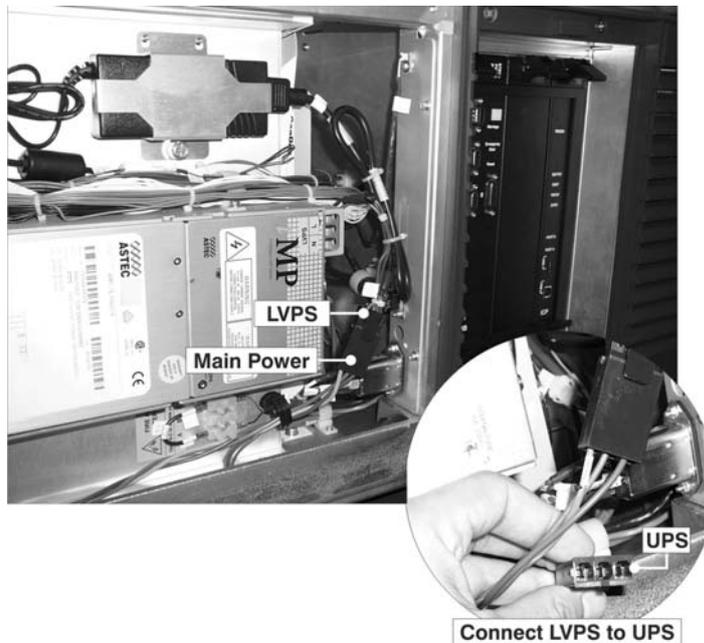

Figure 2-14
1. To configure the projector for UPS, simply unplug the LVPS input connection from Main Power and connect it to the loose UPS input plug. Re-use the dummy plug from the UPS connection with the unused Main Power plug. **Figure 2-14**